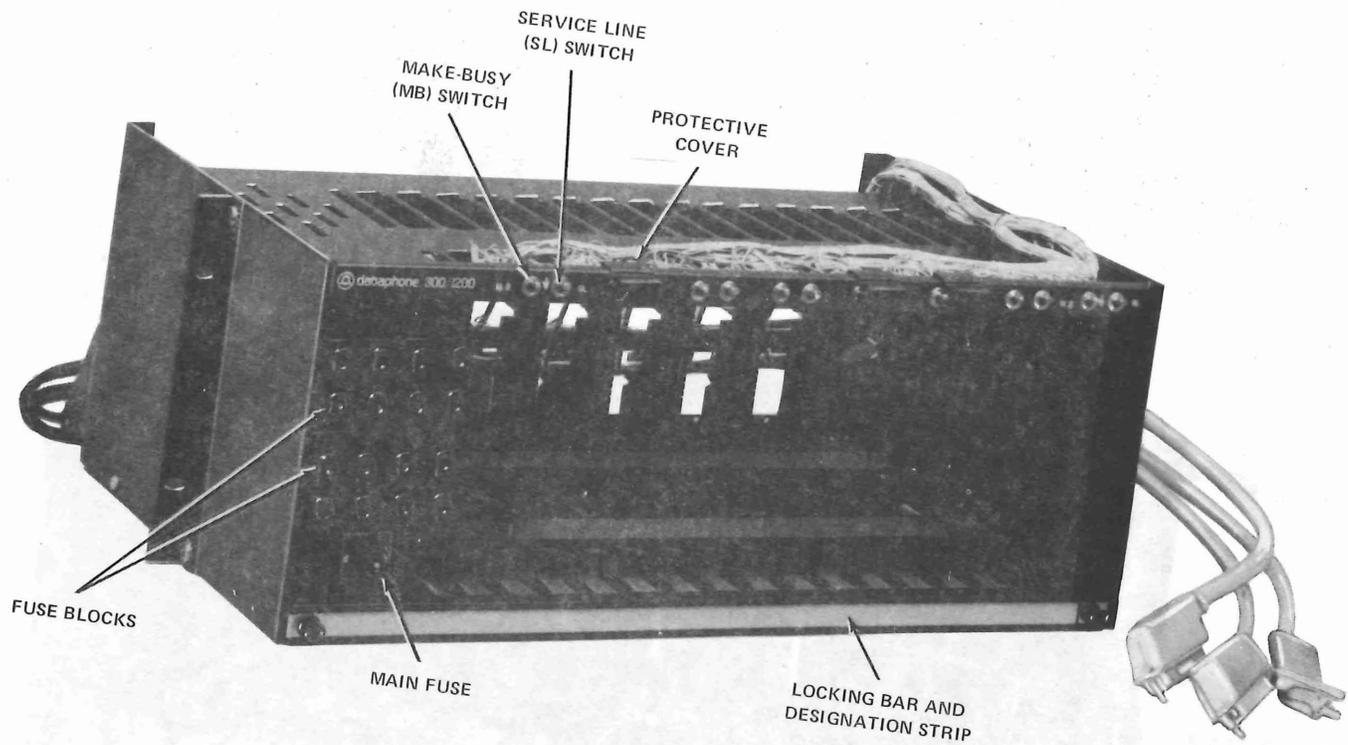

Fig. 3—40A3 Data Mounting
2.06 The 40A3 data mounting (Fig. 3) replaces the 40A2 data mounting to accommodate International Standardization Organization interface which is now available in DS 212A-L1A in addition to the other data sets and data auxiliary set listed in paragraph 2.03. The 40A3 data mounting is similar to the 40A2 except for the following: